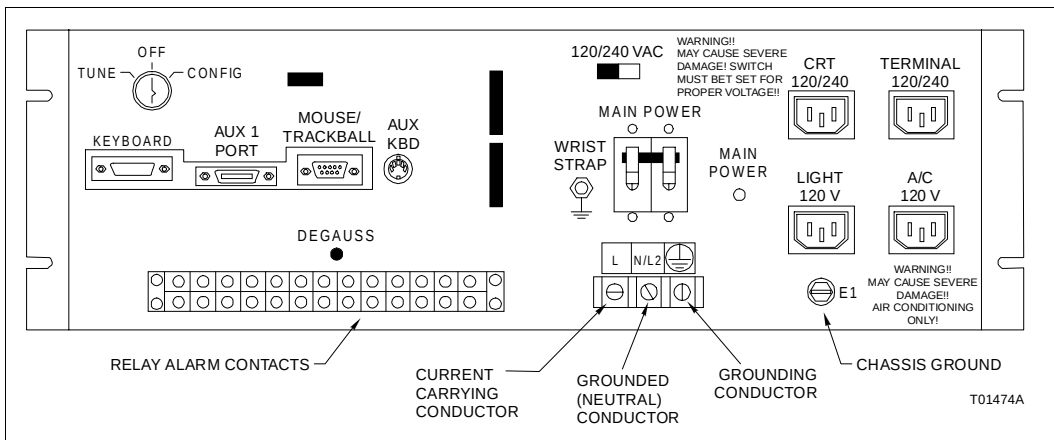

Figure PR5-4. Environmental Model Power Wiring
- ☐ 3. Use the bladed screwdriver to connect the power wires to the appropriate locations on the terminal block as shown in Figure PR5-4.